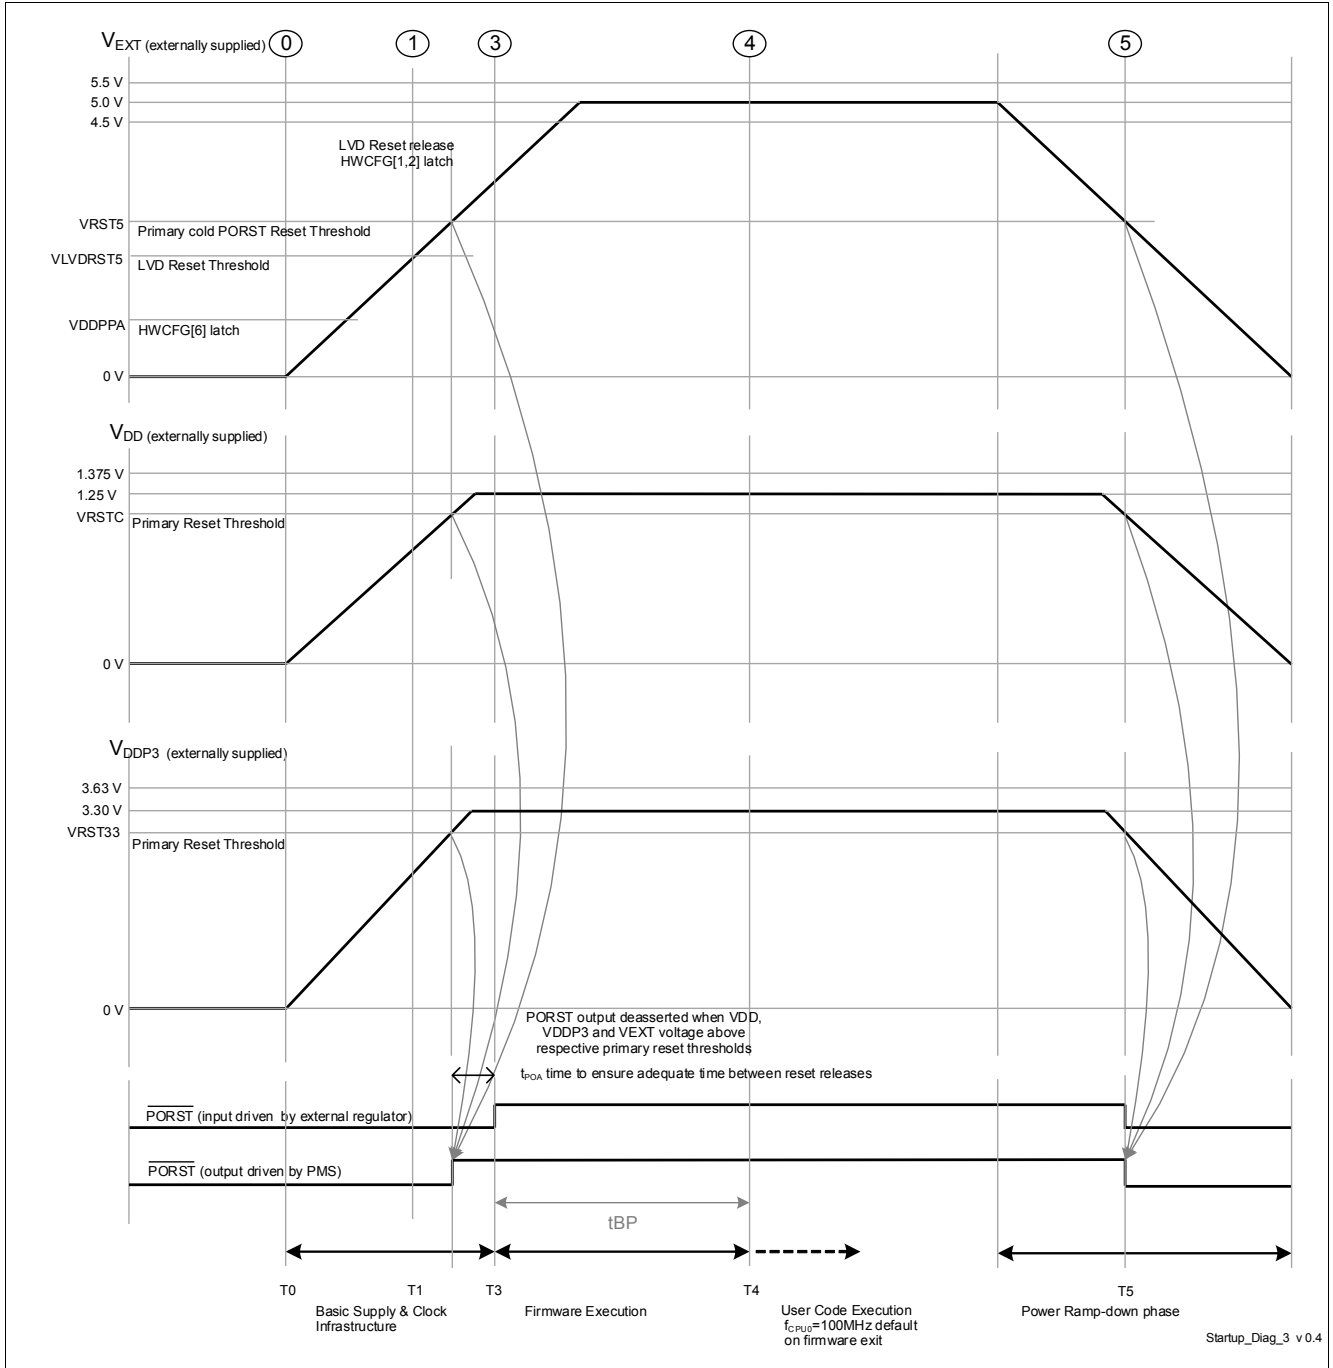

Figure 3-6 External Supply mode (h) - VEXT, VDDP3 & VDD externally supplied
- The power sequence as shown in **Figure 3-6** is enumerated below